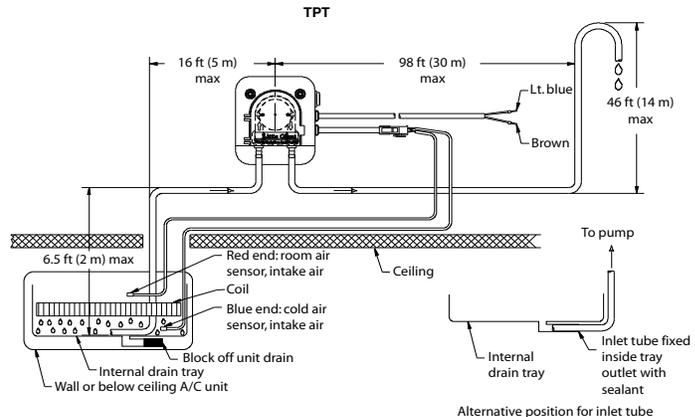

FIGURE 2
The pump may also be positioned on any side, but not placed rotor downward (Figure 1C) or upward (Figure 1A). Connect 6.0mm or 1/4" tubing (not provided) to the pump intake indicated by the arrow pointing upward on the transparent cover. Position the other end of the intake tube in the drip tray drain hose and seal it accordingly or place the intake tube in the drip tray (Figure 2). Be careful not to twist, kink, or collapse the tubing. Run a length of 6.0mm or 1/4" tubing (not provided) from the discharge of the pump to a gravity drain. Refer to Figure 2 for maximum vertical and horizontal discharge capabilities.
**TPT Series** (temperature signal) **FOR PROPER PUMP OPERATION, PLEASE FOLLOW THESE INSTRUCTIONS:** Connect the brown wire to the main phase (line) and the blue wire to the neutral phase (common) (Figure 2). Make sure power is off when connecting the temperature sensor to the pump. Connect the sensor cable to the pump by connecting the 4-prong plug to the corresponding
cable on the pump. There are 2 lead wires with sensors at the ends; one lead has a blue end and the other has a red end. Affix the wire with the blue sensor to the "cold" or "air out" side of the evaporator coil and the wire with the red sensor to the "hot" or "air in" side of the evaporator coil (Figure 2).